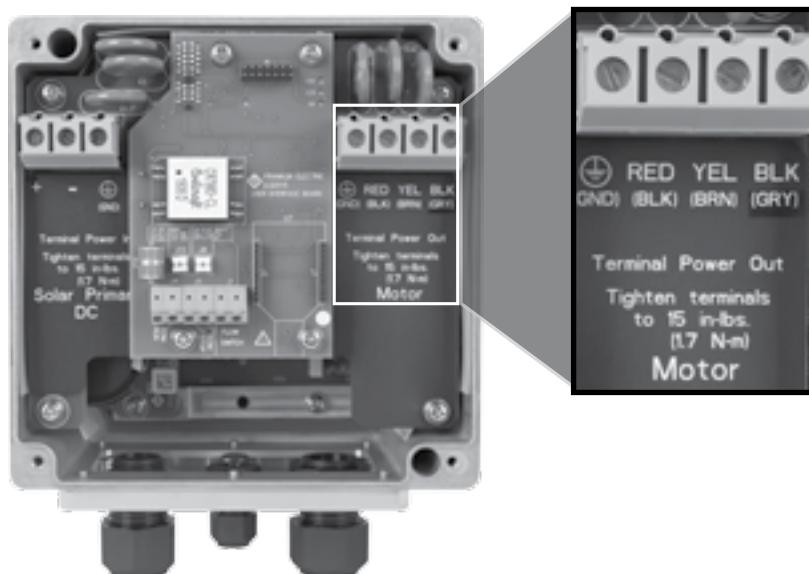

Figure 6: Motor Wiring Connection
1. Connect the cables from the Pump/Motor Assembly to the Terminal Block labeled "MOTOR" and marked BLK, GND, RED, and YEL, (Figure 6). (Torque specification: 15 in-lbs/ 1.7 N-m). (Use copper conductors only. Rated 75 °C minimum).